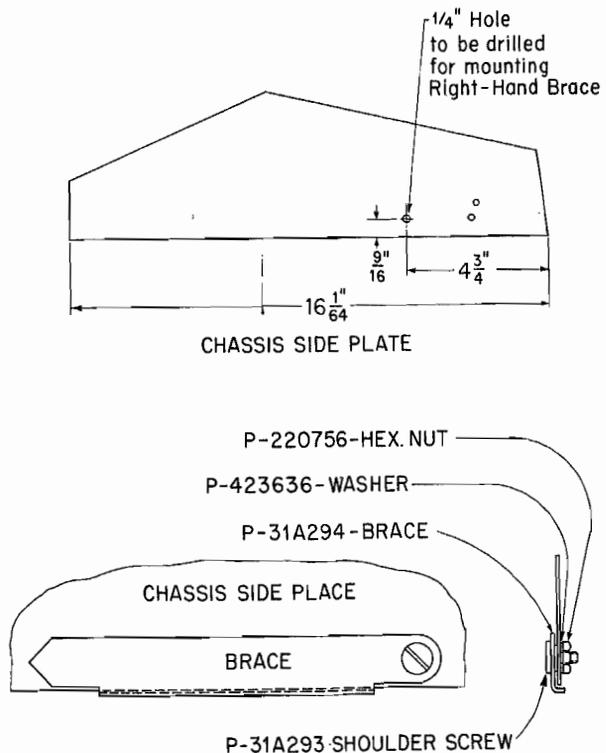

Fig. 4 — Installation and Assembly of Supplementary Keyshelf Brace for 507-type PBX Not Provided with Two Keyshelf Braces
- 4.13** The first 507-type PBX to be manufactured were not provided with a supplementary keyshelf brace on the right side of the chassis. If the PBX is not equipped with a brace, a P-31A294 brace should be installed in the field. Drill a hole in the chassis and install the required parts. The location and size of this hole and the assembly of parts are shown in Fig. 4. The material to modify one switchboard is as follows: